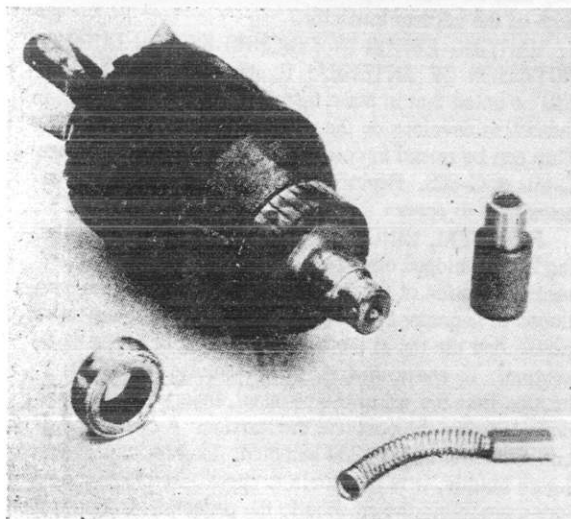

FIGURE 3.—General Electric Parts.
b. Identify the type of motor parts in the equipment maintenance parts by means of figures 3 and 4 and their respective parts lists. It will require unpacking the pedestal motor maintenance parts in order to compare the parts with the photographs.